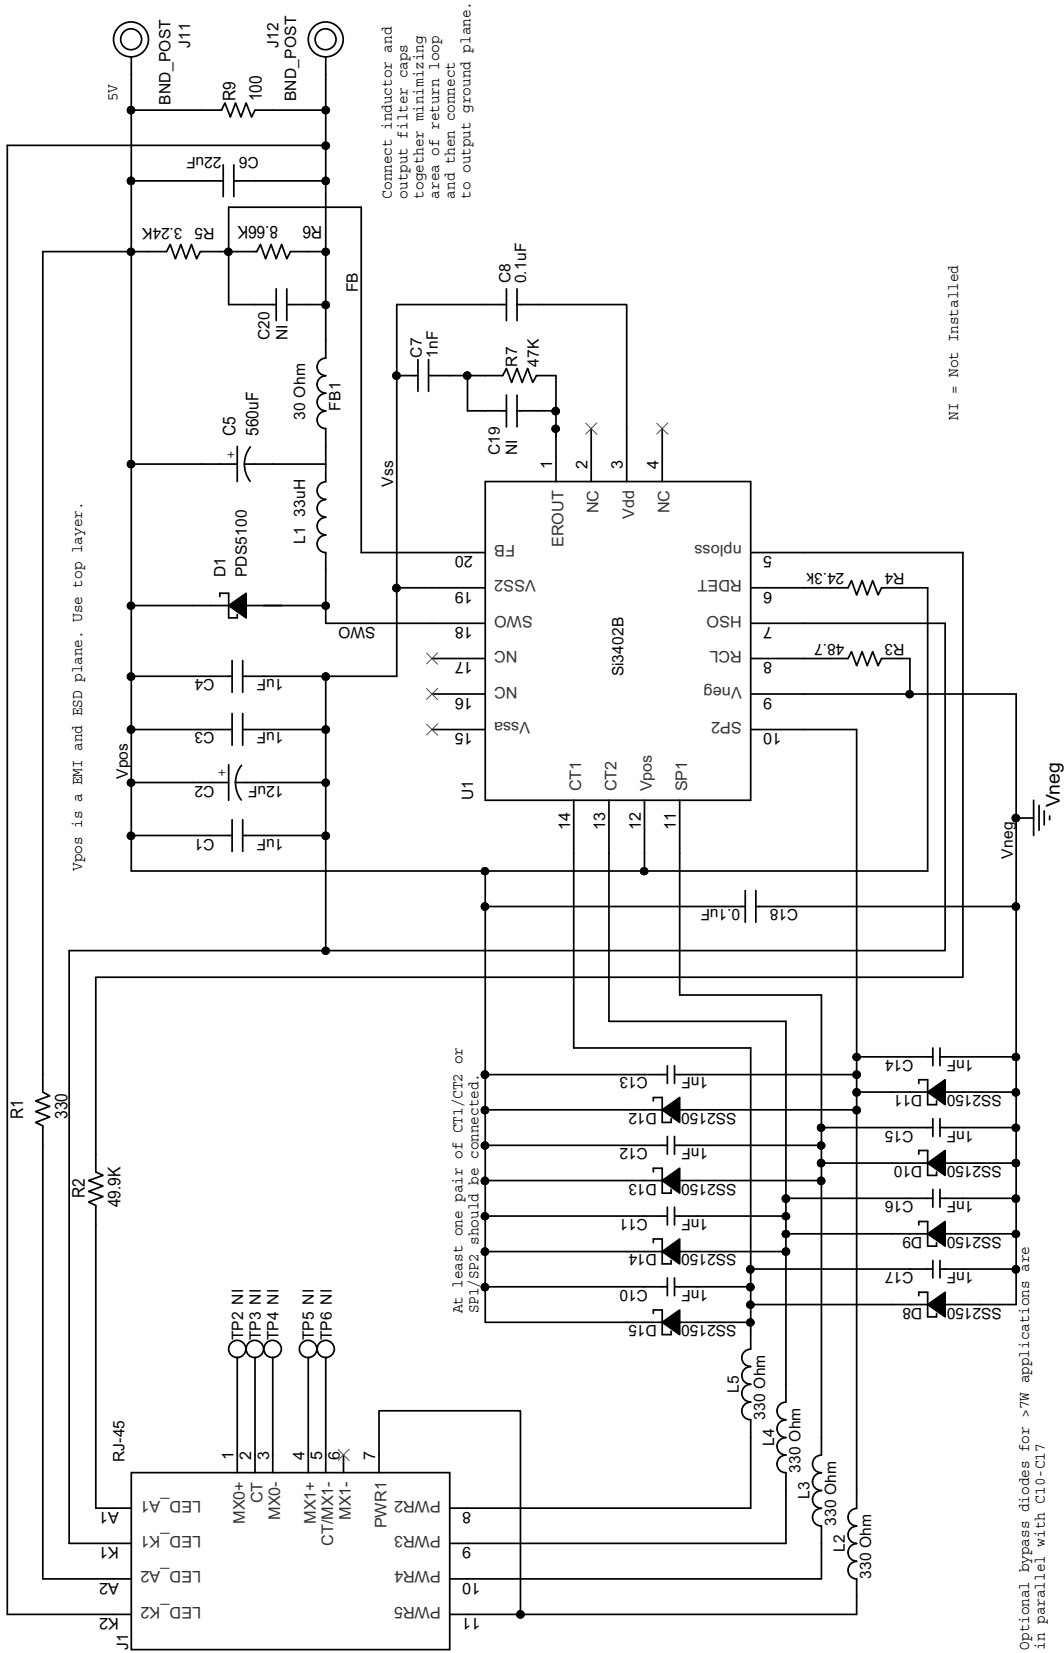

Figure 1. Si3420B Schematic—5 V, Class 3 PD
The Si3402B-EVB board schematics and layout are shown in Figures 1 through 6. The dc output is at connectors J11(+) and J12(-).
- e. Based on your required PD power level, select the appropriate class resistor value by referring to Table 3 of AN956. This sets the Rclass resistor (R3 in Figure 1 on page 2).
- a. ESD caps (C10–C17 in Figure 1) are strongly recommended for designs where system-level ESD (IEC6100-4-2) must provide >15 kV tolerance.